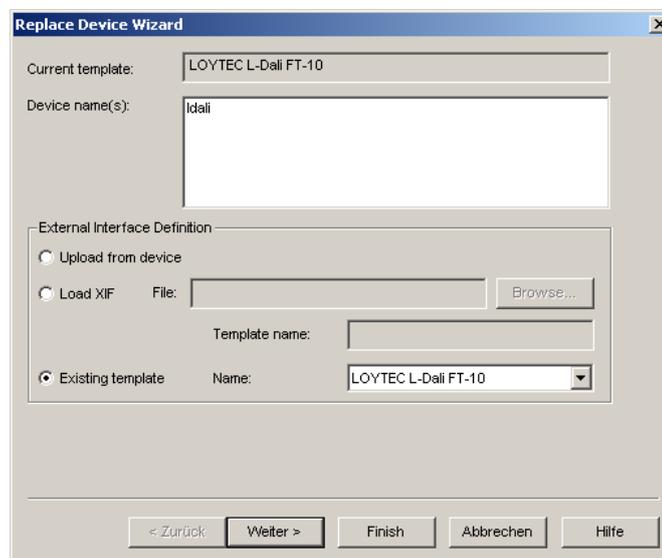

Figure 92: LonMaker replace device wizard.
2. Select **Commissioning** → **Replace....** This opens the LonMaker Replace Device Wizard as shown in Figure 92.